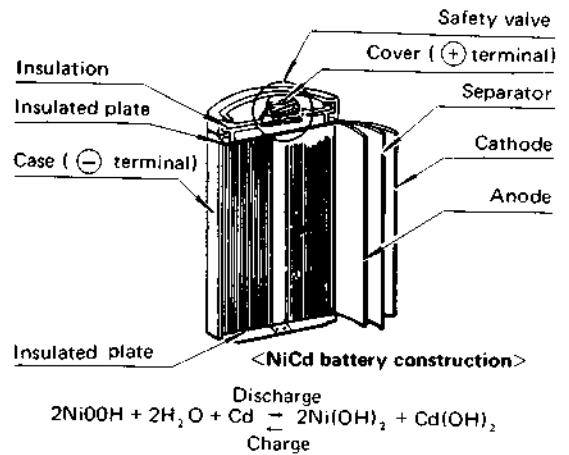

Fig. 1
- 1) Fig. 1 shows the basic construction of a NiCd battery. Anode and cathode plates are spaced by a separator and wound in a spiral, then inserted into the case. After inserting the electrolyte, the case is sealed.
- 2) A NiCd battery uses an oxynickel hydroxide (2NiOOH) anode, a cadmium (Cd) cathode and potassium hydroxide (KOH) electrolyte. The electrochemical reaction for charging/discharging is shown in Fig. 1.